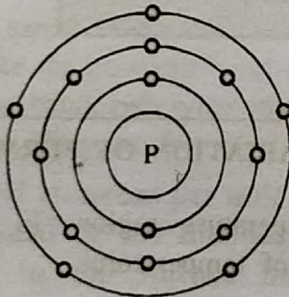

FIG. 2.10 : PENTAVALENT ATOM (PHOSPHORUS)
- The various examples of pentavalent impurity atoms include Phosphorus (P), Arsenic (As), Antimony (Sb), etc.
- The atomic structure of pentavalent atom (phosphorus) is shown in below Fig. 2.10.